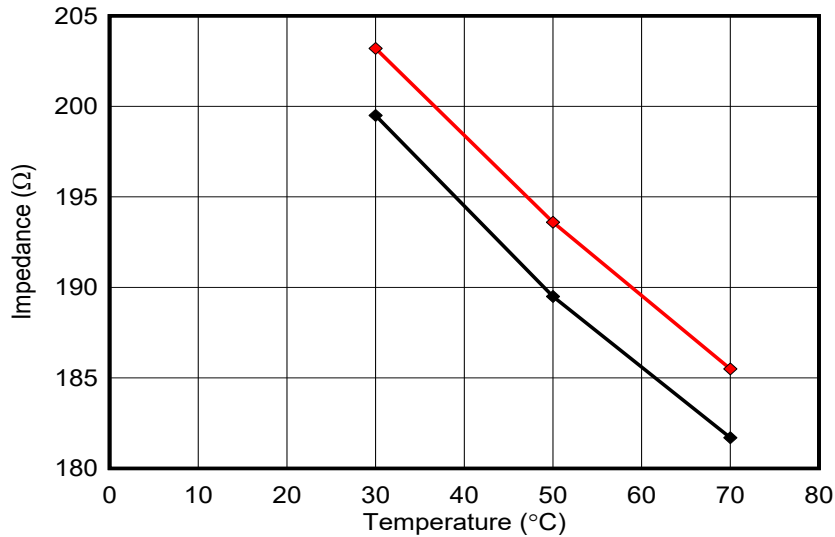

Figure 4-2. LCS Impedance vs Temperature
The second burst in a typical calibration sequence is for temperature calibration, CONTROL_Burst_Cal_Region_Temp (5). The temperature is calibrated at a single frequency that is far from any resonance frequency in the LCS's impedance response. An example is shown in Figure 4-2. The temperature slope constant, USER_Params_tempParams_slope_CperOhm_Q27, and the calibration temperature, USER_Params_tempParams_calTemp_C_Q21, must be set to properly calibrate the LCS temperature. The temperature slope is determined by measuring the LCS impedance across temperature and finding the slope of the best fit line where the x-axis is impedance and the y-axis is temperature, the inverse of the example figure. The calibration temperature, calTemp, is the ambient temperature (in Celsius) of the LCS when calibration is run. The impedance decreases as the temperature increases making the temperature slope constant negative. When the calibration sequence is run, the temperature slope constant, USER_Params_tempParams_constant_C_Q21, is set to an appropriate value.